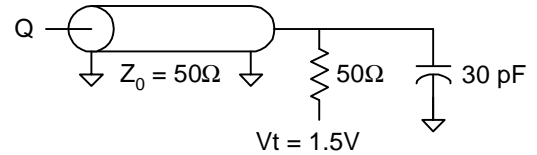

Fig. 1 OUTPUT LOAD EQUIVALENT
Output load	See Figures 1 and 2
5. Test conditions as specified with the output loading as shown in Fig. 1 unless otherwise noted.
13. Capacitance derating applies to capacitance different from the load capacitance shown in Fig. 1.